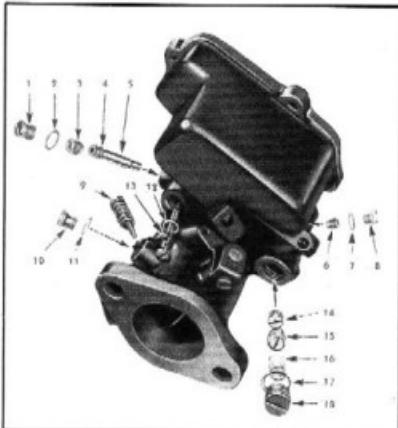

Fig. 11—Down-draft Carburetor Valves and Jets
- Assemble the copper gasket on the main nozzle, (4) Fig. 11. Hold the carburetor with the air horn down, line up the flat part of the "D" section on the nozzle with that in the primary venturi and drop the nozzle (5) into the opening. Install the nozzle screw plug (3) and tighten it securely. Tighten the three air horn screws. Install the main nozzle passage plug (1) using a new copper gasket (2).
- Install the low speed jet (13) and gasket (12) in the carburetor body, then again remove the jet and check the bearing on the top end of the jet. If there is a complete bearing around the top of the jet indicating a full seat, it may be
- Install the outlet and inlet check valves (14) and (15), Fig. 11, in the carburetor body. Then install the screen (16), passage plug (18) and gasket (17). Install the accelerating pump jet (6), plug (8) and gasket (7).